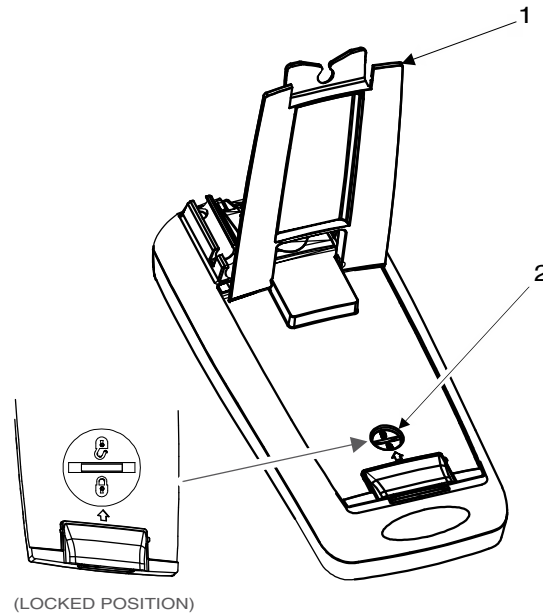

Figure 3. Multimeter Locking Device Location
3. Raise multimeter stand (Figure 3., Item 1) and turn multimeter rear cover locking device (Figure 3., Item 2) clockwise until the lock symbol on the locking device aligns with the arrow on the rear multimeter cover. This will "lock" the multimeter rear cover. Lower multimeter stand (Figure 3., Item 1).